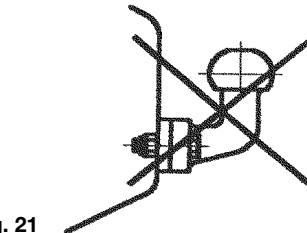

Fig. 21
- In accordance with EC Directive 94/20, couplings of type A 50-1 cannot be used (see Fig. 21), your warranty will be invalid if this type of towball is used.